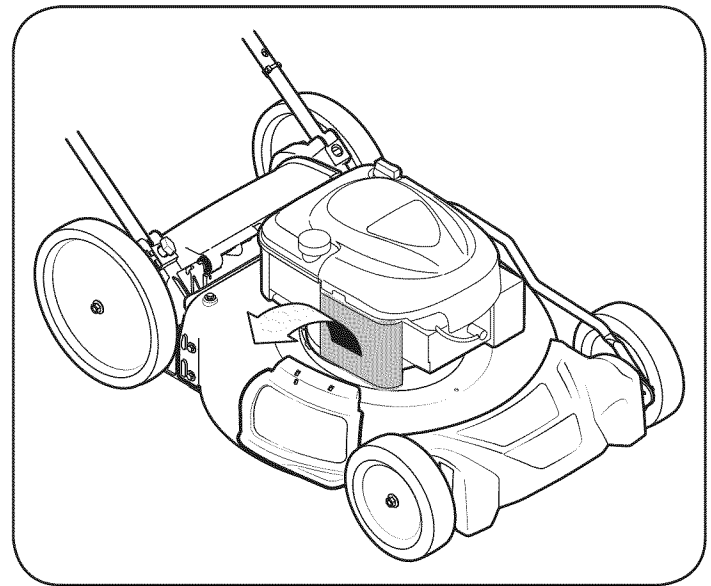

Figure 17
1. Loosen the fastener that holds the cover and tilt plastic housing cover on side of engine down. See Figure 17.